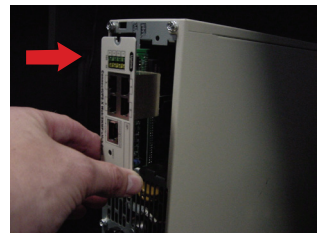

Figure 2. Install the ConnectUPS Card
4. Slide the card into the open slot and secure with the screws removed in Step 2 (see Figure 2 and Figure 3).